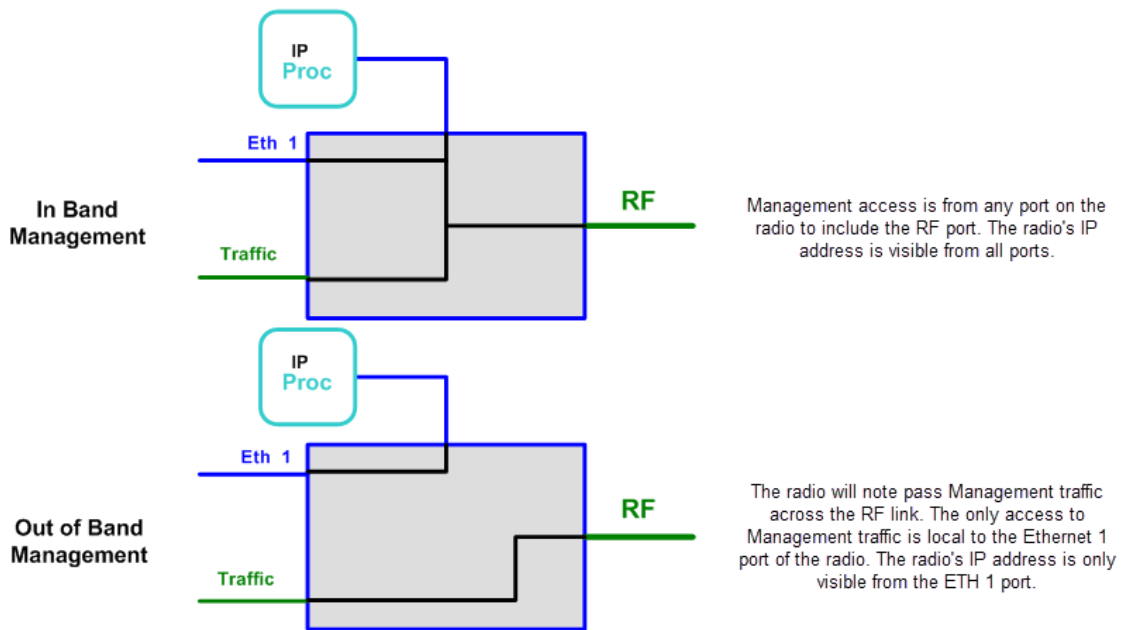

Figure 24 In-Band and Out-of-Band Management
- Inband: Management traffic is carried over the air and is available from all connectors on either end of the link (Figure 24).